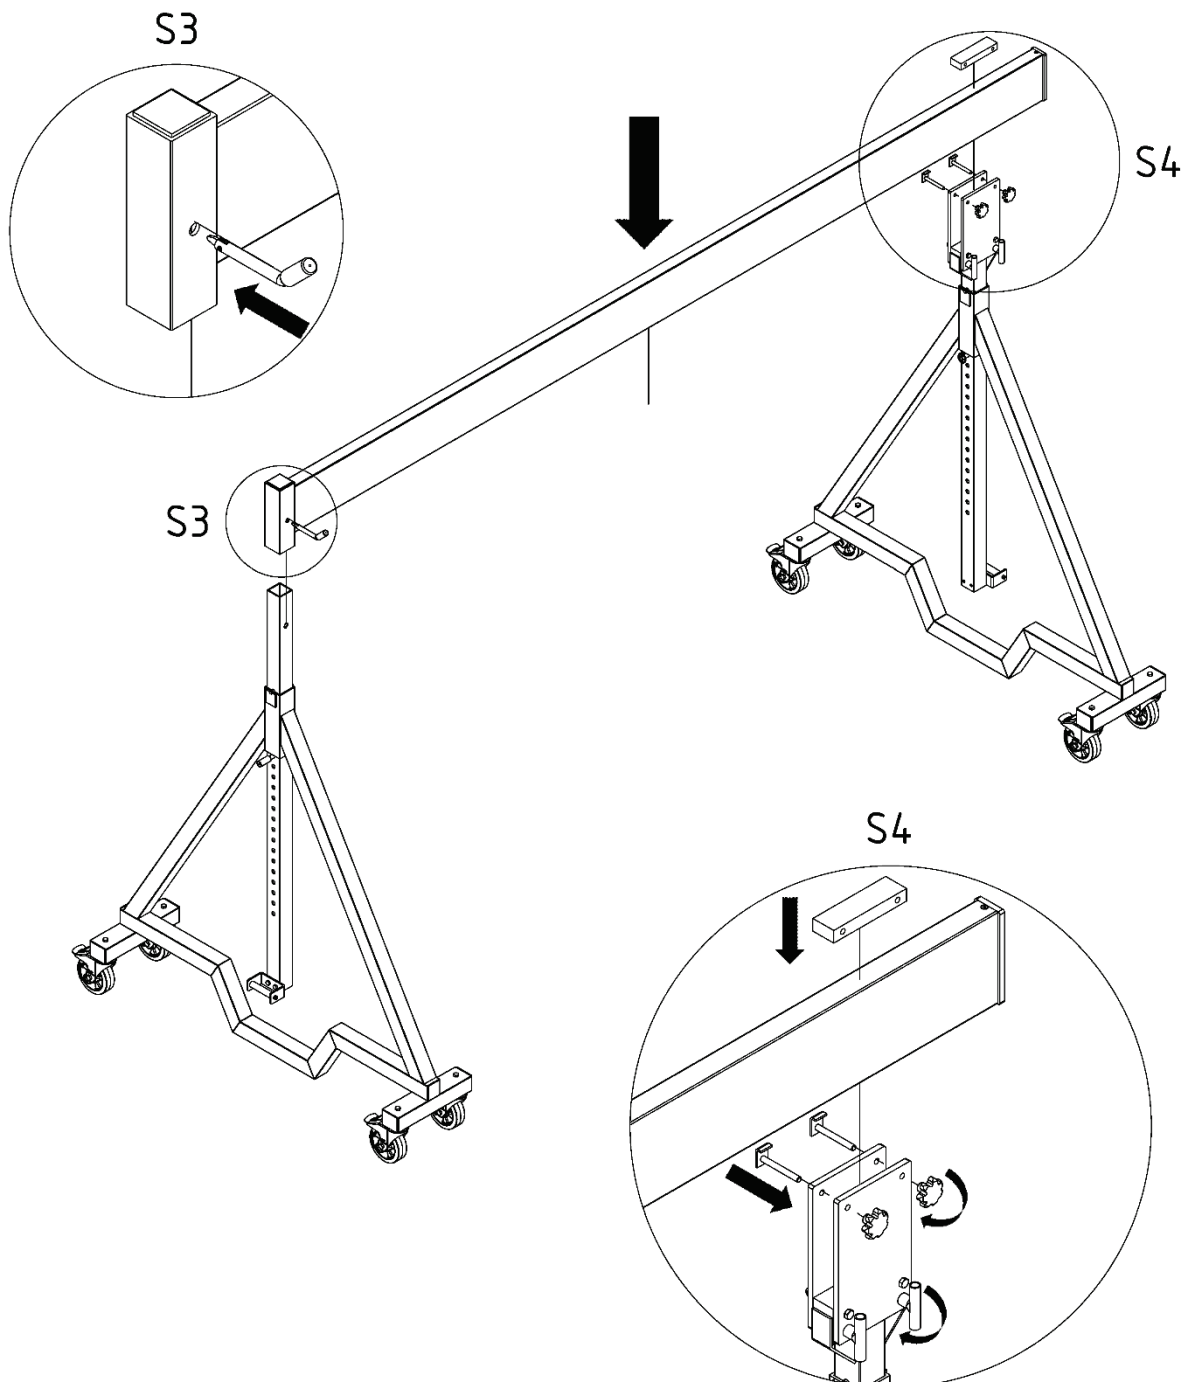

Fig. 3
- 7.3 Now place the aluminium carrier on the Side frames as shown in fig. 3. Make sure that the sleeve reception, which is welded to one end of the aluminium carrier, is placed over the carrier support of the Side frame with plug-in support. The other end of the aluminium carrier is inserted into the horizontal adjuster on the carrier support of the opposite Side frame.
- 7.4 Insert the carrier safety bolt through the hole in the sleeve reception of the aluminium carrier, as shown in fig. 3. Now place spacer plate 2 onto the carrier and re-insert clamping screws 1. Screw on the star knob nuts and retighten clamping screws 2 to clamp the aluminium carrier in this position.